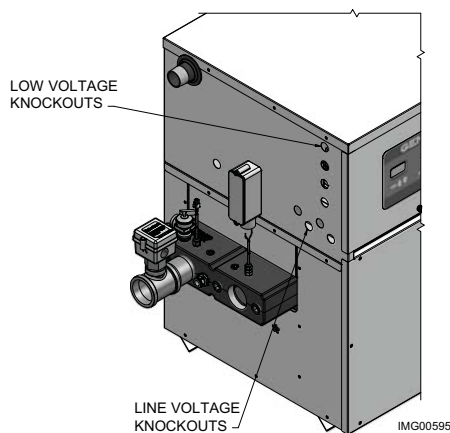

Figure 5-3_Routing Field Wiring
1. Route all low voltage wires through the knockouts on the left side of the heater, as shown in FIG. 5-3.